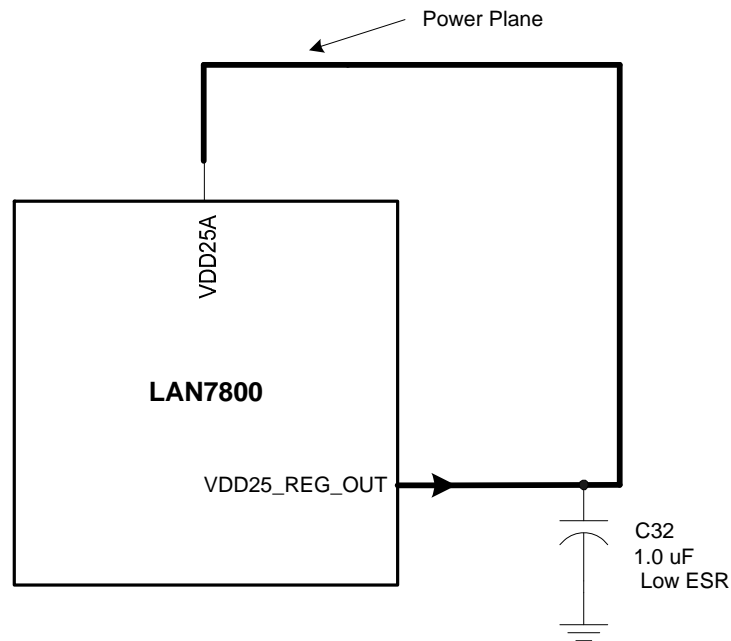

Figure 3 - LAN7800 +2.5V Power Connections
4. VDD25A (pins 3, 6, 9, & 12), these four input power supply pins should be powered from the internal +2.5V switching regulator. These pins power the Gigabit Ethernet Phy AFE. See figure 3 below for more details.